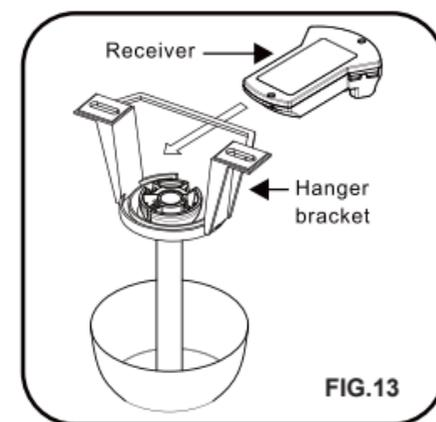

FIG.13
Step 1. Insert Receiver into Hanger bracket with the flat side of the Receiver facing the ceiling. (FIG.13)